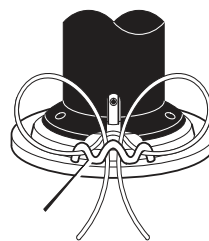

Figure 14
7.5.7 Take the ends of the line, cross over the line retainer and thread the ends through the centre hole (See Figure 14).